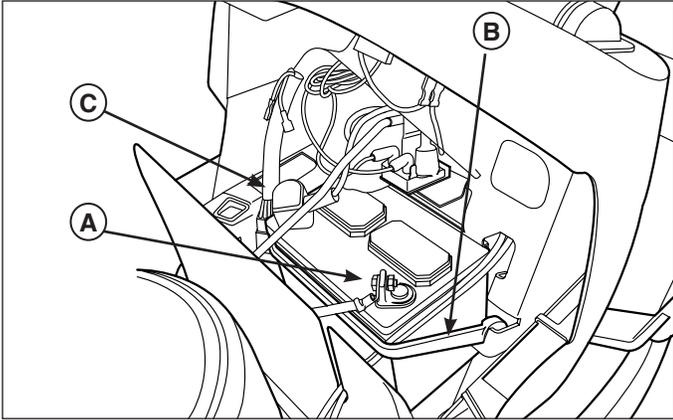

Figure 10
1. Disconnect the cables from the battery, negative cable first (**A**, Figure 10).